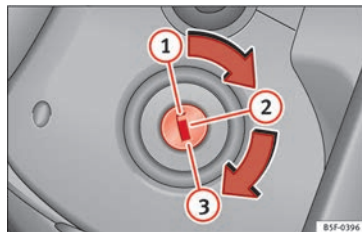

Fig. 173 Ignition key positions.
In this position » Fig. 173, the ignition and the engine are OFF and the steering may be locked.
- Turn the ignition key to position  **Fig. 173** . The warning lamp  will light for engine pre-heating.
- Turn the ignition key to position »» **Fig. 173**